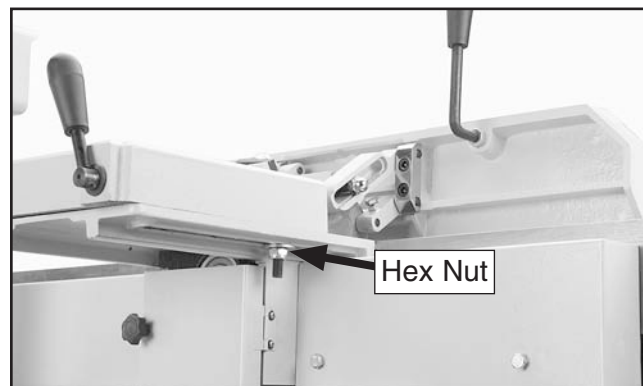

Figure 15. Fence installed on mounting bracket.
8. Install the fence by fitting the keyway over the key on the mounting bracket. Use the hex nut and flat washer that were pre-installed in the fence lock handle threads to tighten the fence to the mounting bracket, as shown in **Figure 15**. Use a 19mm wrench to tighten the hex nut.